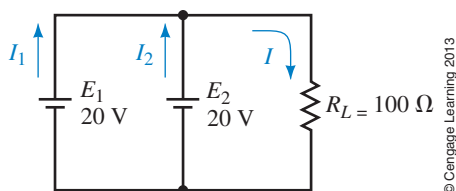

FIGURE 6-69
27. Two 20-V batteries are connected in parallel to provide current to a 100-V load as shown in Figure 6-69. Determine the current in the load and the current in each battery.